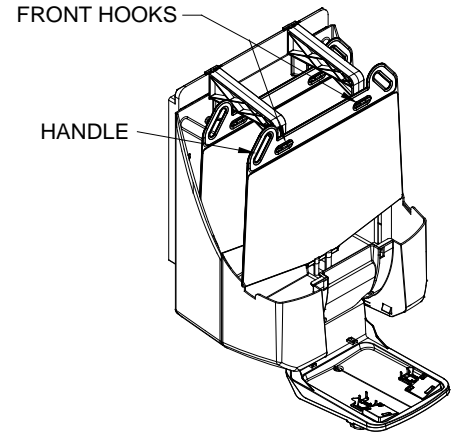

Figure 10
- B. Lift second Cartridge by handles provided and place on front hooks of hanger bracket (Ref Figure 10).